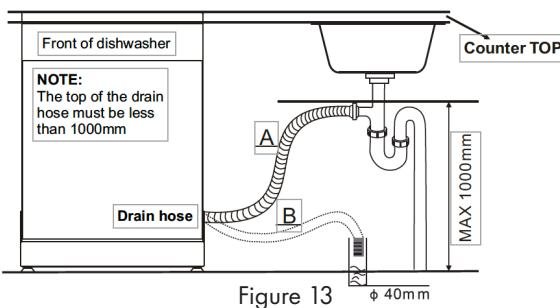

Figure 13
5. If there is no air gap, make sure to hang the middle of the drain hose well above the sink cabinet base to prevent backflow (see Figure 13 on the next page).